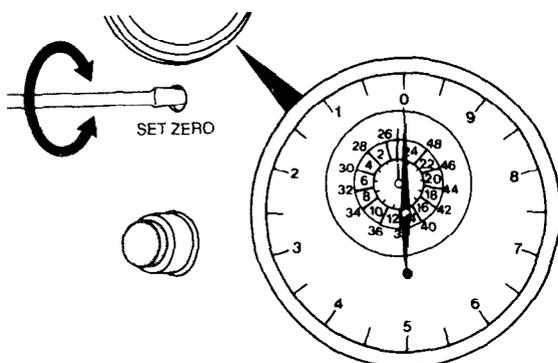

Figure 129 — Dial Indicator — Adjustment
- r. After the motor has stopped, press and hold the metering button, then using a suitable screwdriver set the dial indicator to zero by turning the set zero screw (see Fig. 129).